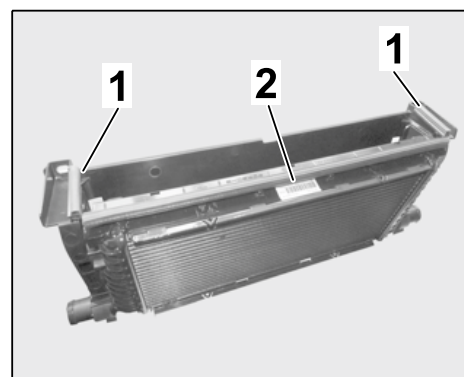

Figure 12
- 3.1.6 Fit long seal ⇒ *Figure 12 -2-* on strip.
Fit short seals ⇒ *Figure 12 -1-* on retaining frame.